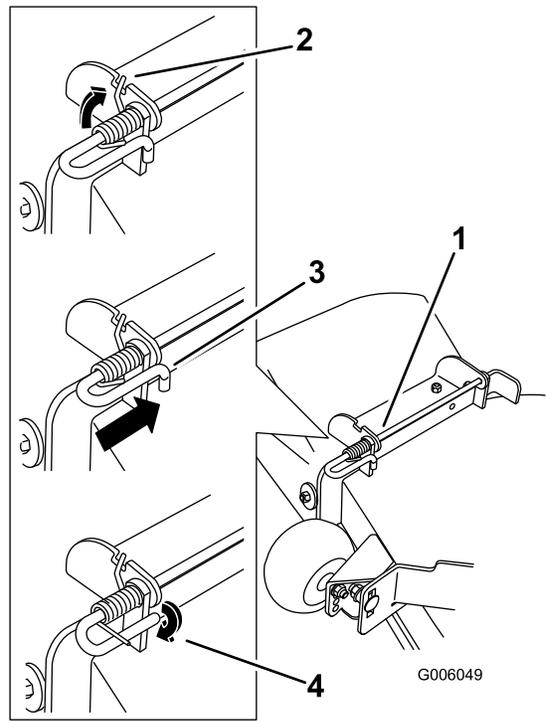

Figure 66
4. Lift the long end of the spring and place it into the notch on the deflector assembly bracket (Figure 66).
5. Secure the rod and spring assembly by twisting it so the short end of the rod can be placed behind the front bracket welded to the deck (Figure 66).